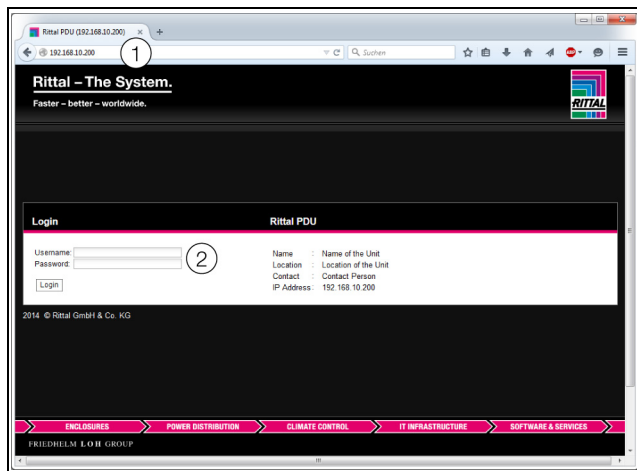

Fig. 20: Login screen with an HTTP connection
- In the browser, enter the address **http://192.168.0.200** (fig. 20, item 1). The logon dialog for logging on to the device will be displayed.
- Log in with the username **admin** and the password **admin** (fig. 20, item 2).